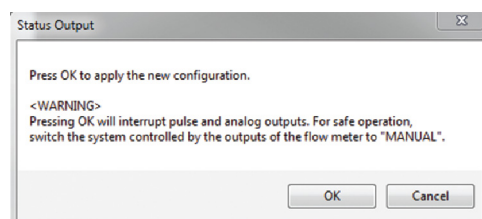

Figure 2.9—Status Output, Apply New Configuration warning
4. Click **OK** on the Status Output dialog. A warning (Figure 2.9) will appear. After taking appropriate cautionary actions, click **OK** to apply the change.